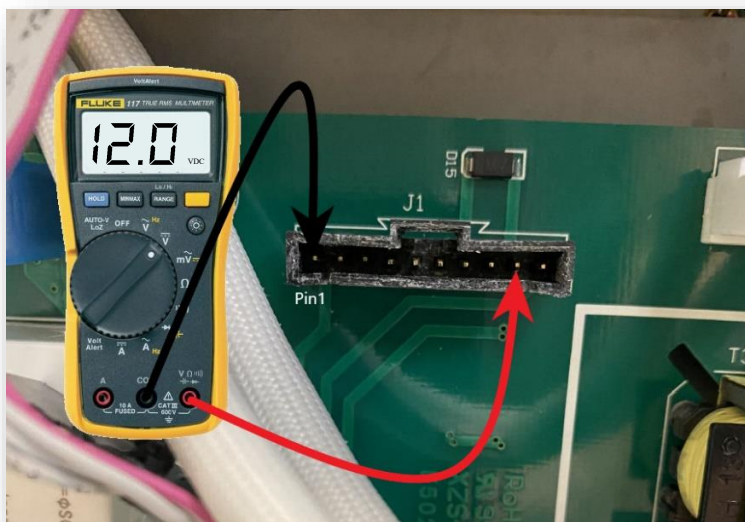

Figure 52 – J1 Connector Control Panel Voltage
b. If there is no voltage between these points, and to ensure the ribbon cable is not defective, remove the J1 cable on the PCB and check the voltage between pins 1 and 9 on the PCB (**See Figure 52**). If no voltage is present at these pins, the PCB will need to be replaced. If there is voltage between these two pins, ohm out the ribbon cable wires to ensure continuity.